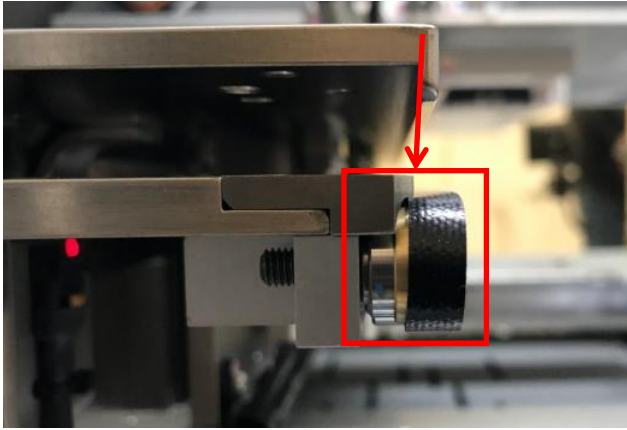

Figure 37 Belt Routing (NG)
5. Visual check Conveyor Belt Running Condition by refer to Figure 37~42